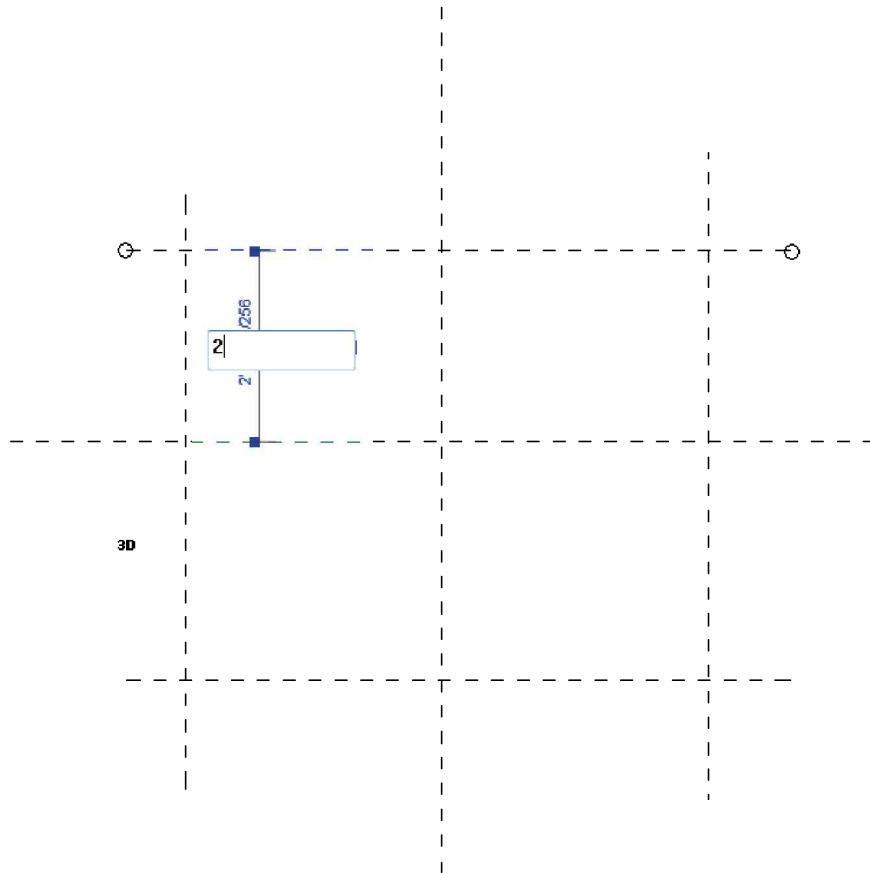

FIGURE 18-2.7 Top “horizontal” reference plane selected
10. Select the top horizontal *Reference Plane* (Figure 18-2.7).
11. Edit the *Temporary Dimension* to be **2'-0"** (Figure 18-2.7).